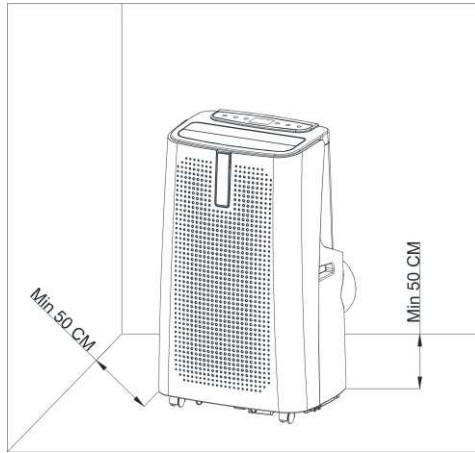

Figure 4.
1) Move the machine with installed heat pipe and fittings before the window, and the distance between the body and walls or other objects shall be least 50 cm (as shown in Figure 4).